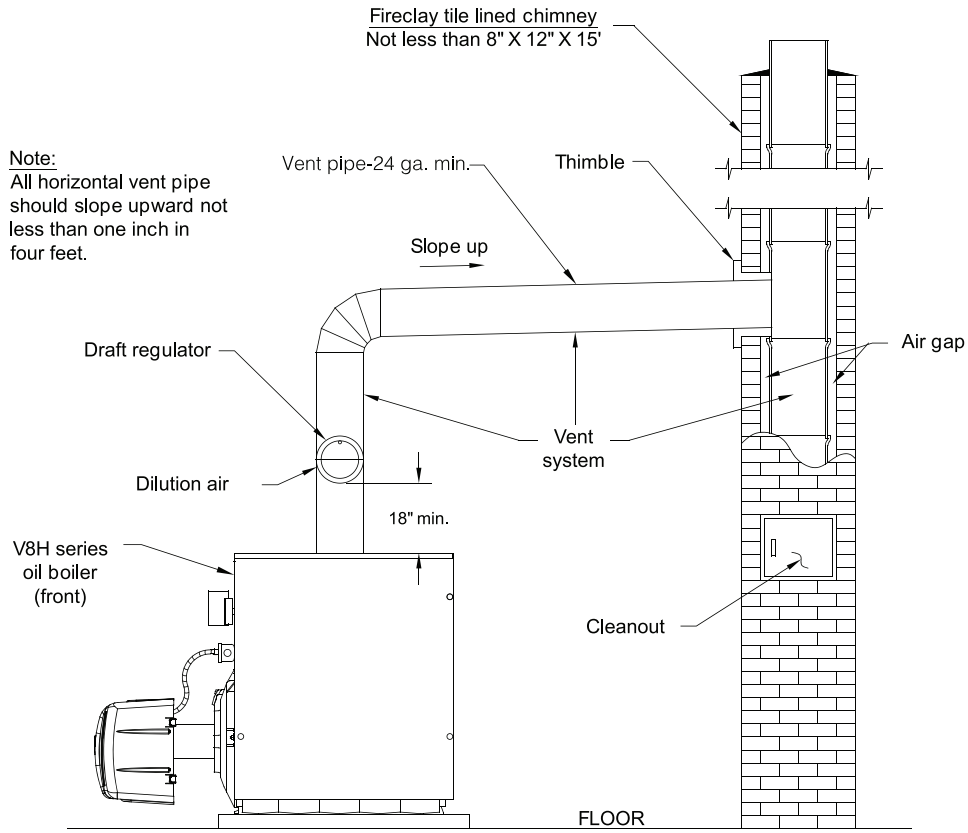

Figure 17: Recommended Vent Pipe Arrangement and Chimney Requirements
5. Draft Regulator – the draft regulator supplied with the boiler (or equivalent) must be used with this appliance. Refer to Figures 17 and 18.